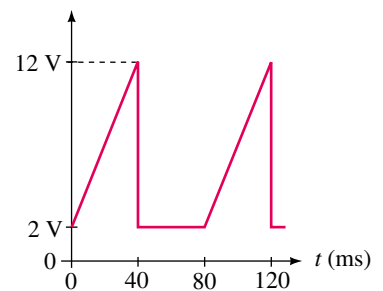

FIGURE 25-63
- The waveform of Figure 25-63 is made up of a dc voltage combined with two fundamental waveforms from Table 25-1. Determine the dc voltage and sketch the two waveforms. Determine the Fourier series of the composite wave.